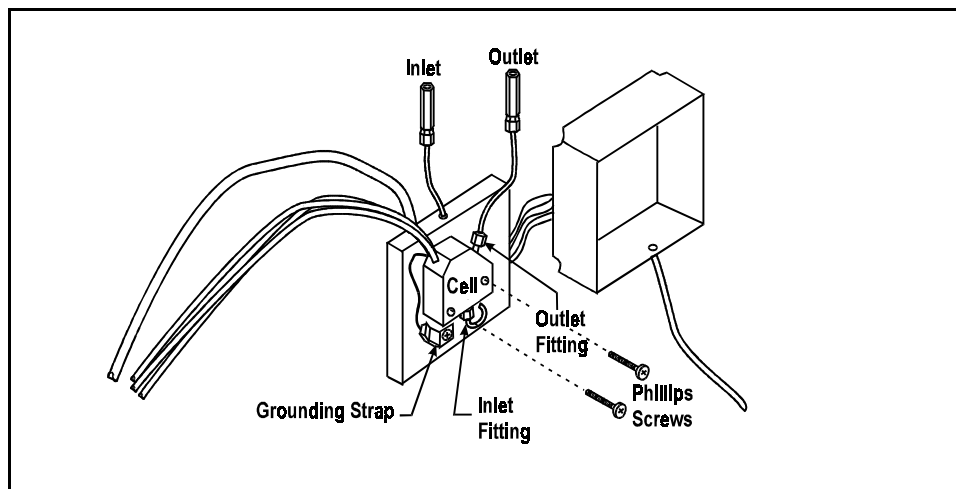

Figure 5-1. DS4 Interior Components
3. Disconnect the DS4 inlet and outlet lines. Do not misplace the ferrule fittings at the end of the tubing (see Figure 5-1).
7. Remove the four Phillips screws securing the top of the box to its bottom plate. Carefully separate the two parts, exposing the cell (see Figure 5-1). Lay the top aside, being careful not to pull or stress the group of wires that connect the two parts.